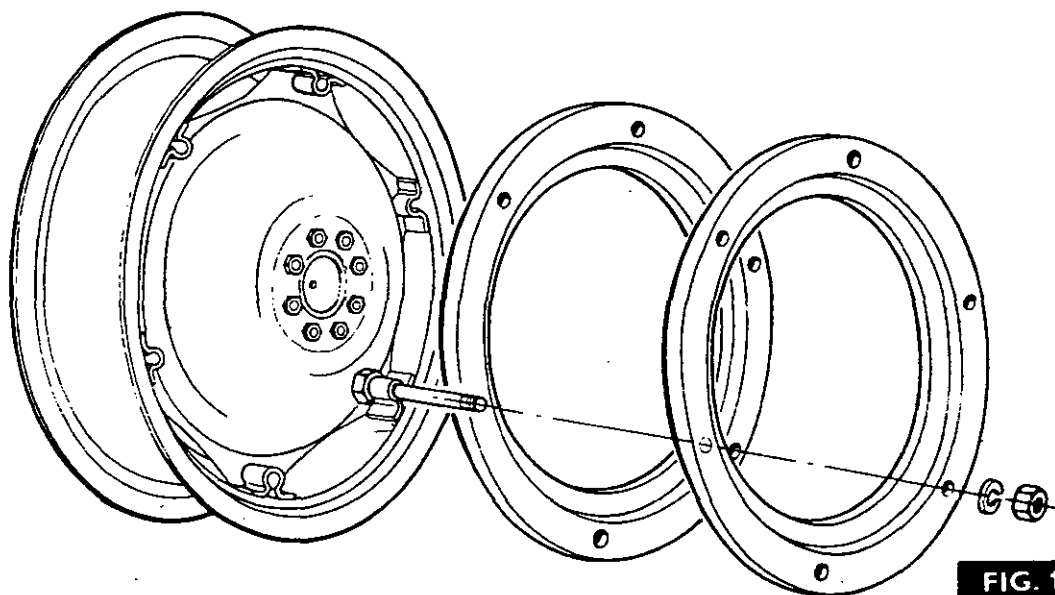

FIG. 15
Wheel weights for MF 135 tractors are secured to the rim lugs by extension bolts which replace the standard bolts, as shown in Figure 15.
- 3) Fit the extension bolts, as shown in Figure 15.